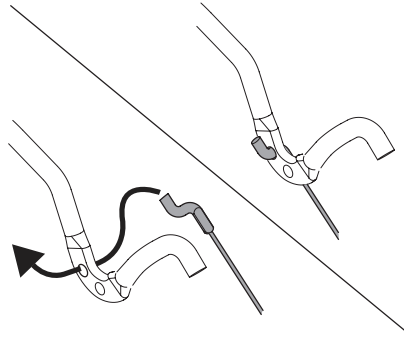

Figure 19
- There is now sufficient slack in the drive control cable to grasp the z-fitting with your hand and move it from the front hole to the rear hole of the drive control. See Figure 19.